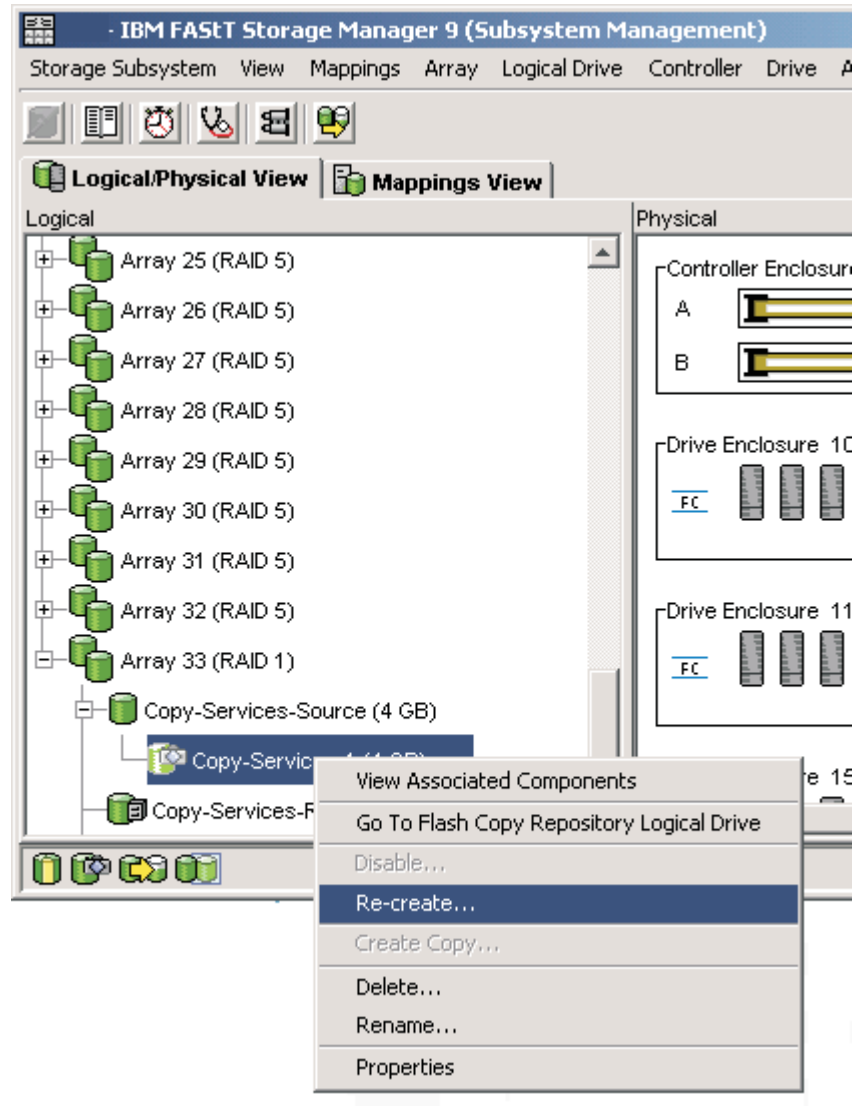

Figure 19. Recreating a FlashCopy logical drive
1. Select the FlashCopy logical drive. Right-click and select **Re-Create**, as shown in Figure 19 on page 45.